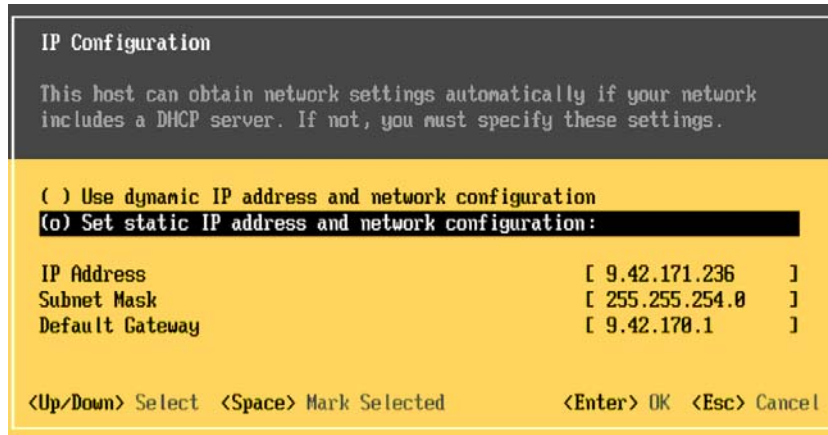

Figure 5-18 Setting a static IP Address for ESXi host management interface
6. Select **IP Configuration** and then set the IP Address to match your management network policies (static IP or DHCP). See Figure 5-18 on page 272. Make sure to register the host name in your DNS server (or servers), and set DNS server IP addresses and DNS suffixes for the ESXi host, especially if you plan to use management tools like VMware VirtualCenter which relies heavily on DNS name resolution.
IP Configuration, Figure 5-18 on page 272, allows you to set **Use dynamic IP address and network configuration** (ESXi requests a DHCP lease) or **Set static IP addresses and network configuration**. Note that if ESXi cannot find a DHCP server, it defaults to the 169.254.0.1/255.255.0.0 IP address and Class B netmask.